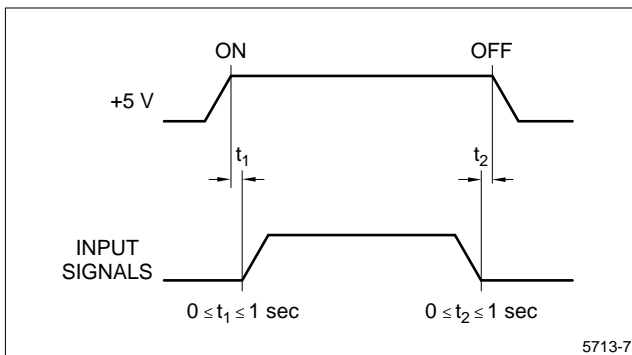

Figure 8. Power ON/OFF Sequential Timing
- Power ON/OFF sequential timing – To prevent the latch-up of the circuit in the module, keep the sequential timing between input signals and supply voltages as shown in Figure 8.